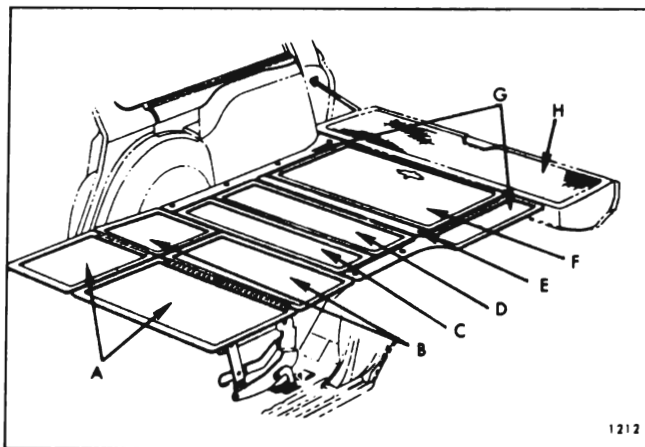

Fig. 15-68 —Folding Seats and Rear Compartment Floor Panels "A-65" Style Station Wagon
Figure 15-68 identifies the major load floor panels on the "65" Style Skylight station wagon.
1. Raise folding third seat. Remove rear compartment left side panel. (See Fig. 15-68).